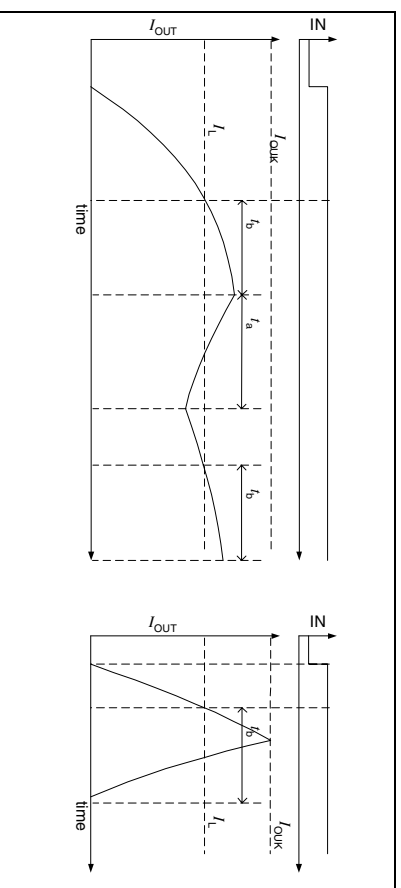

Figure 5 Short to V_S detection. Left: normal operation. Right: short circuit is detected
Due to the chopper current regulation, the low-side switches are already protected against a short to the supply voltage. To be able to distinguish a short circuit from normal current limit operation, the current limitation is deactivated for the blanking time t_b after the current has exceeded the current limit threshold I_L . If the short circuit detection current I_{OUC} is reached within this blanking time, a short circuit is detected (see Figure 5). All output transistors are turned OFF and the according error bit "Short Circuit to Battery on output 1 (2)", SCB1 (SCB2) is set.